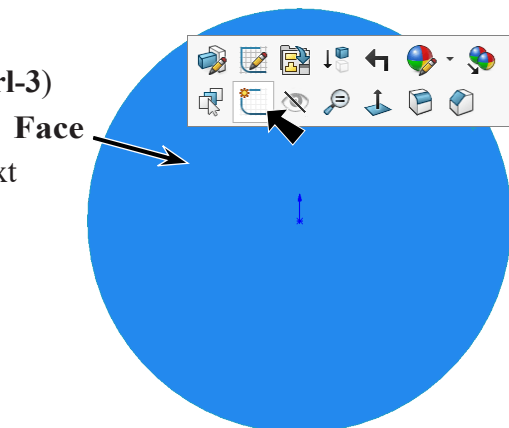
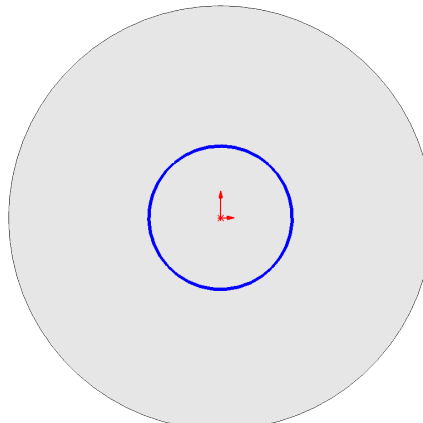
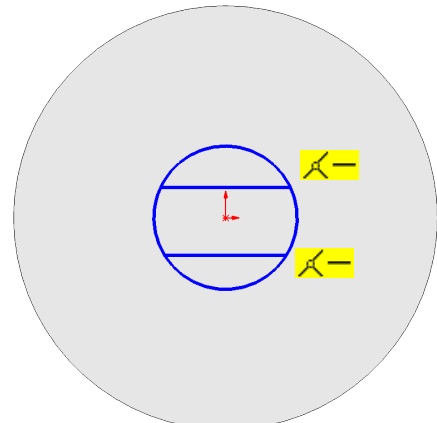

Fig. 28
Fig. 29
Fig. 30
Step 2. Click **rear face** and click **Sketch**  on the context toolbar, **Fig. 28**.
Step 3. Click **Circle**  (S) on the Sketch toolbar.
Step 4. Sketch circle at Origin , **Fig. 29**.
Step 5. Click **Line**  (L) on the Sketch toolbar.
Step 6. Sketch **two horizontal lines across circle** , **Fig. 30**. Double click to terminate chain.